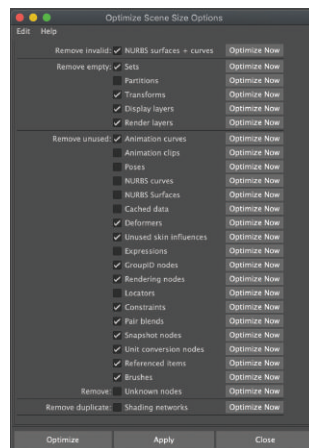

FIGURE 1.20 Optimize Scene Size Options.
- Be sure that there is only one node remaining in the OUTLINER. Select all the geometry, **[ctrl+g]** to group them, and **rename** the group (Figure 1.20).